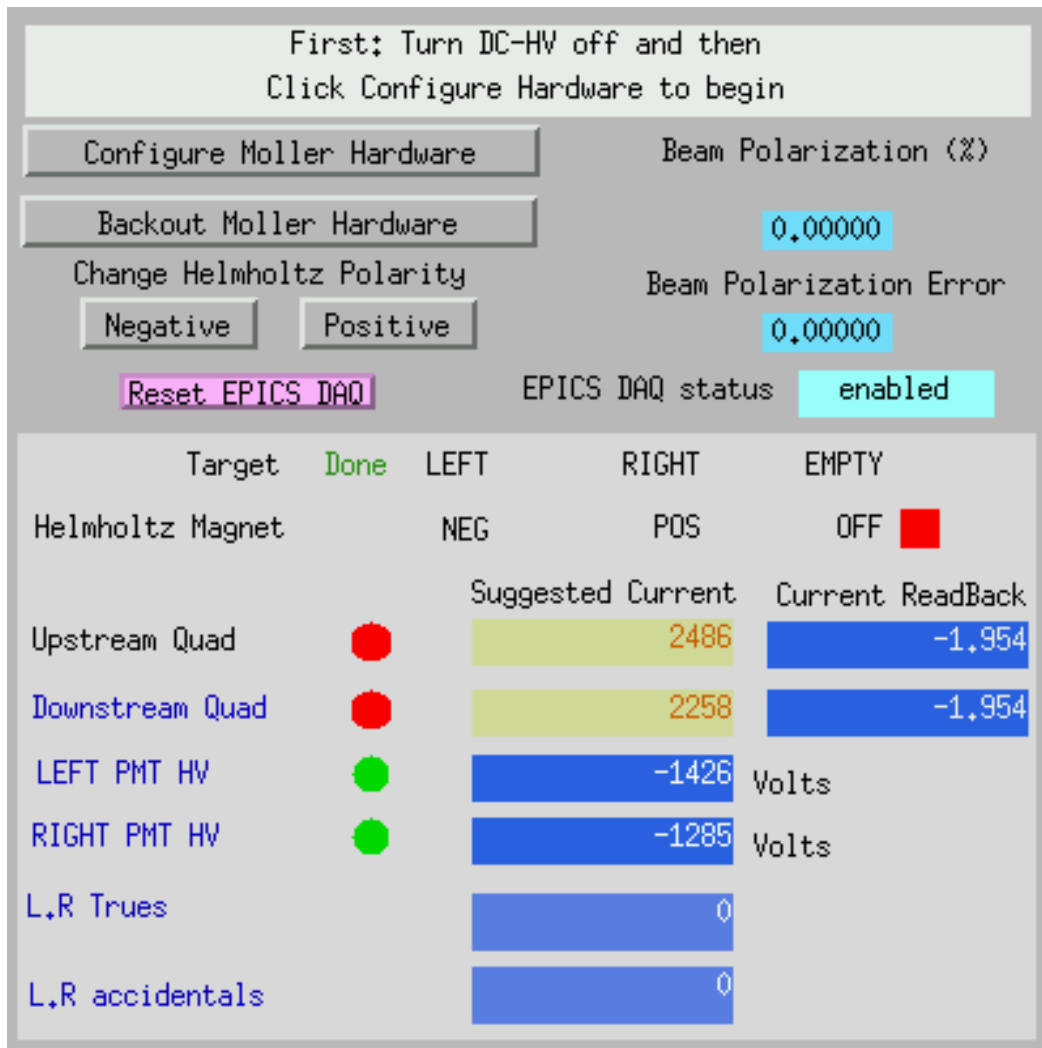

Figure 1: The Möller Epics screen of Möller hardware set up.
- (b) Click the *Configure Moller Hardware* button, near the top of the GUI, Figure 1. This will set off the following sequence of events: